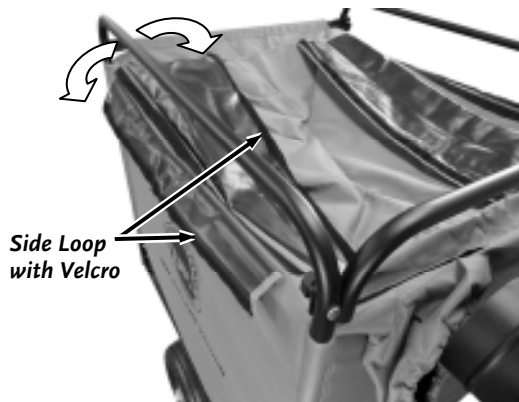

Figure 37
19. Open up the side Loops by pulling at the Velcro closures to separate them (**Figure 37**).